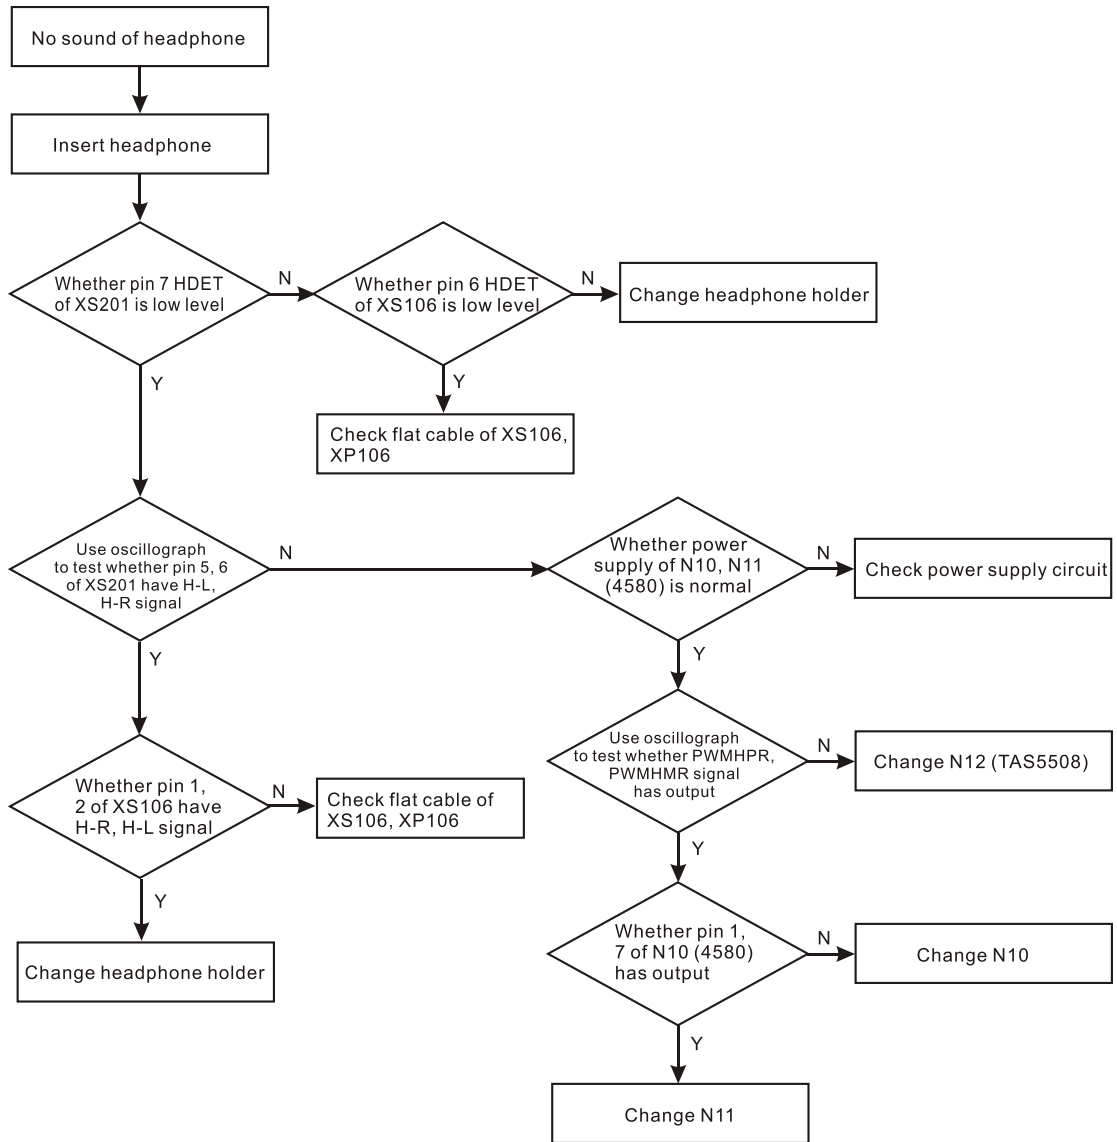

Figure 3.5.7.1 Troubleshooting flow chart for no sound of headphone
3.5.7 Troubleshooting process for no sound of headphone is shown as the following figure 3.5.7.1: